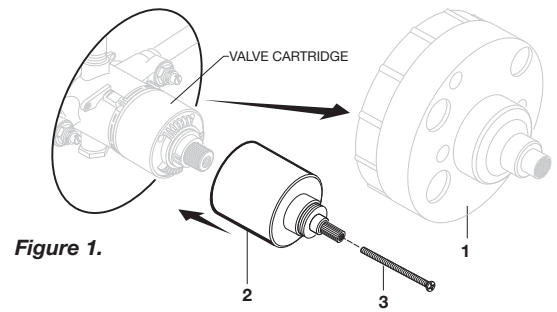

Figure 1.
- **Figure 1.** When finished tiling the wall, remove PLASTER GUARD (1).
- Push CARTRIDGE CAP (2) over VALVE CARTRIDGE until seated against stop.
- Install ATTACHMENT SCREW (3) and tighten to secure CARTRIDGE CAP (2) to valve.